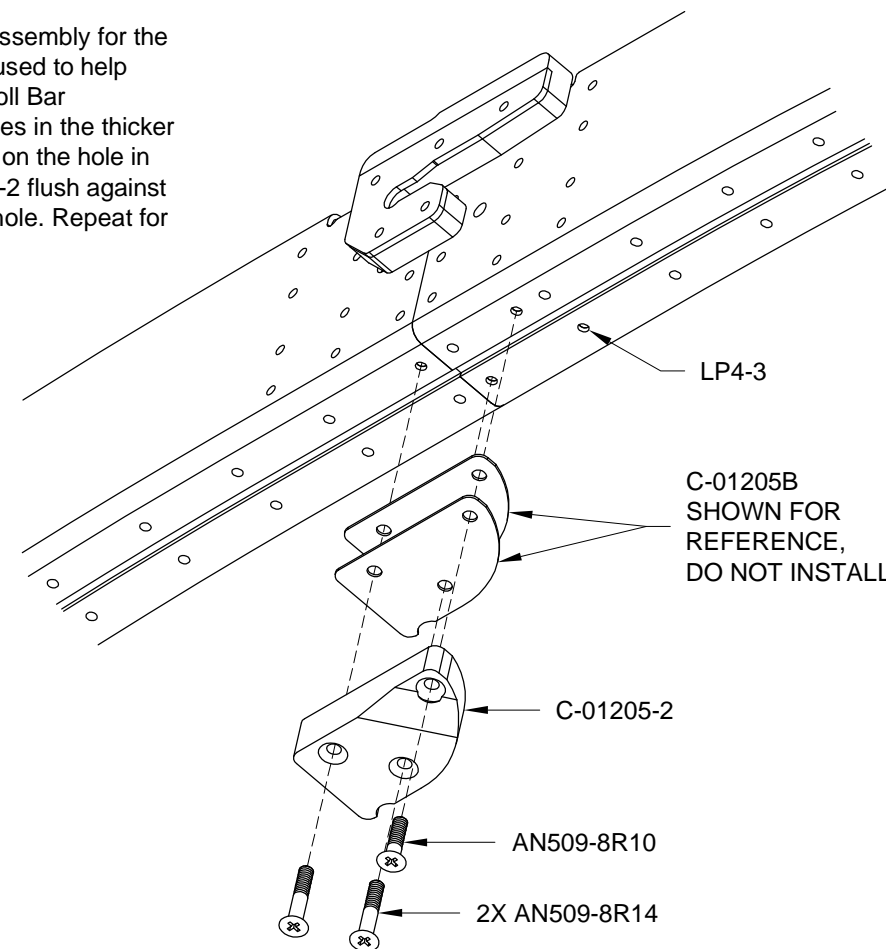

FIGURE 2: C-01205B-2 INSTALL
Step 6: Machine countersink the C-01205-2 for the heads of the screws, then install it with the hardware shown in Figure 2. Do not install the two C-01205B's. They are installed in Section 34iS/U for adjustment of the canopy, if necessary, and are shown here for reference purposes only.